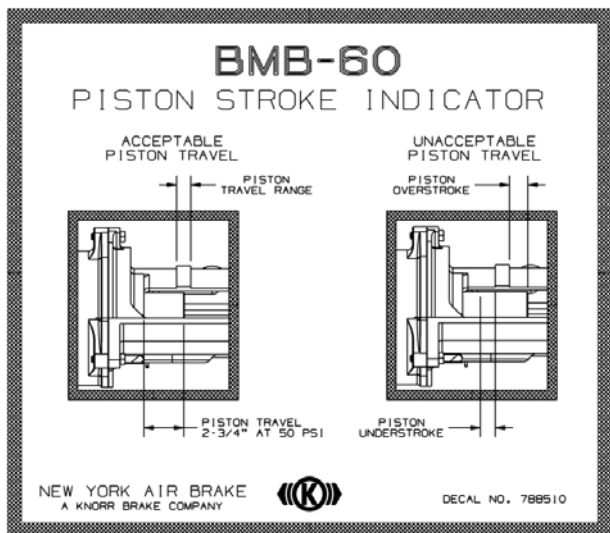

Figure 2
- 12) Piston stroke indicator decals (Figure 2) must be located on each corner of the car.
- 3) Piston stroke is acceptable when the end of the piston is within the stroke indicator of the non pressure body with 50 psi of brake cylinder pressure (Figure 2).
- 4) Piston stroke is unacceptable (overtravel) if the end of the piston is beyond the stroke indicator with 50 psi on brake cylinder pressure (Figure 2).